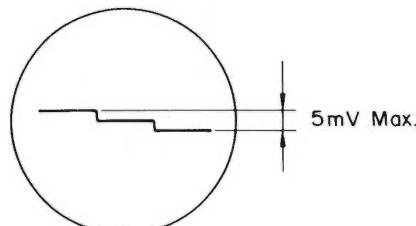

Fig. 4-6-9
- 4) As in the item 1 RMS SYM, set the deck CH 1 (~4) at REC/PAUSE mode using dbx IN.
- 5) Adjust the half-fixed resistor R713 (~R743) in a way that waveform of the oscilloscope obtains the minimum voltage value (maximum; less than 5mV) as shown in Fig. 4-6-9.
- 4) Check waveform on the oscilloscope is less than 5mV (Refer to Fig. 4-6-9).